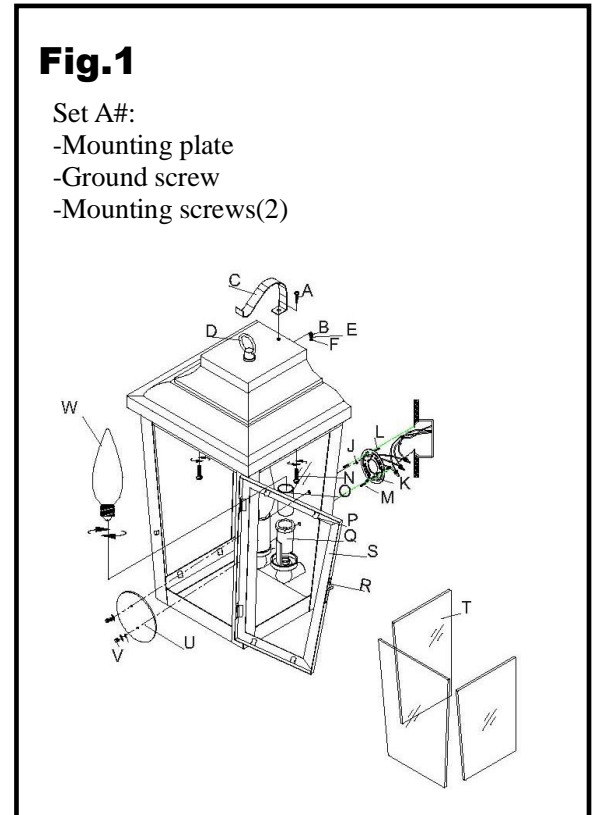

Fig. 2
## CONNECTING ELECTRICAL (Fig.2)
6. Connect the electrical wires as shown in (Fig.2), making sure that all wire connectors are secured. If your outlet has a ground wire (green or bare copper), connect the fixture ground wire to it. Otherwise, connect the fixture ground wire directly to the mounting plate using the green screw provided.